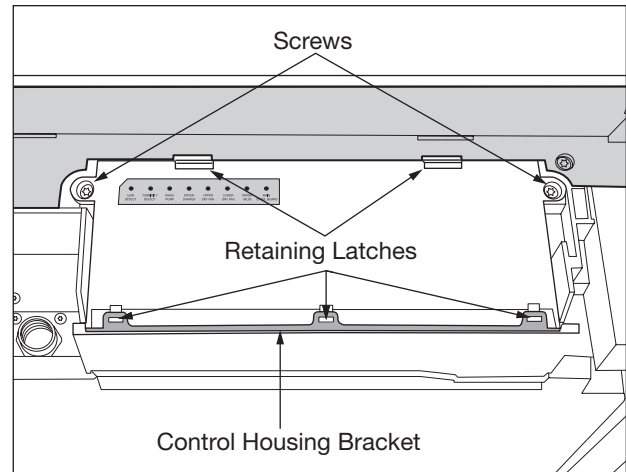

Figure 5-24. Control Assembly Removal
4. Using a #20 Torx bit, extract the 2 screws securing the control assembly to the unit frame. (See Figure 5-24)